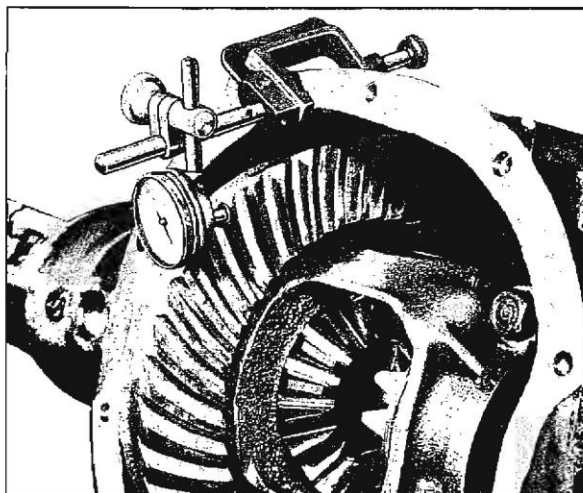

Fig. 4-47 Checking Ring Gear to Pinion Backlash
1. Rotate differential case several times to seat bearings, then mount dial indicator (Fig. 4-47). Use a small button on indicator stem so that contact can be made near heel end of tooth. Set dial indicator so that stem is as nearly as possible in line with gear rotation and perpendicular to tooth angle for accurate backlash reading.